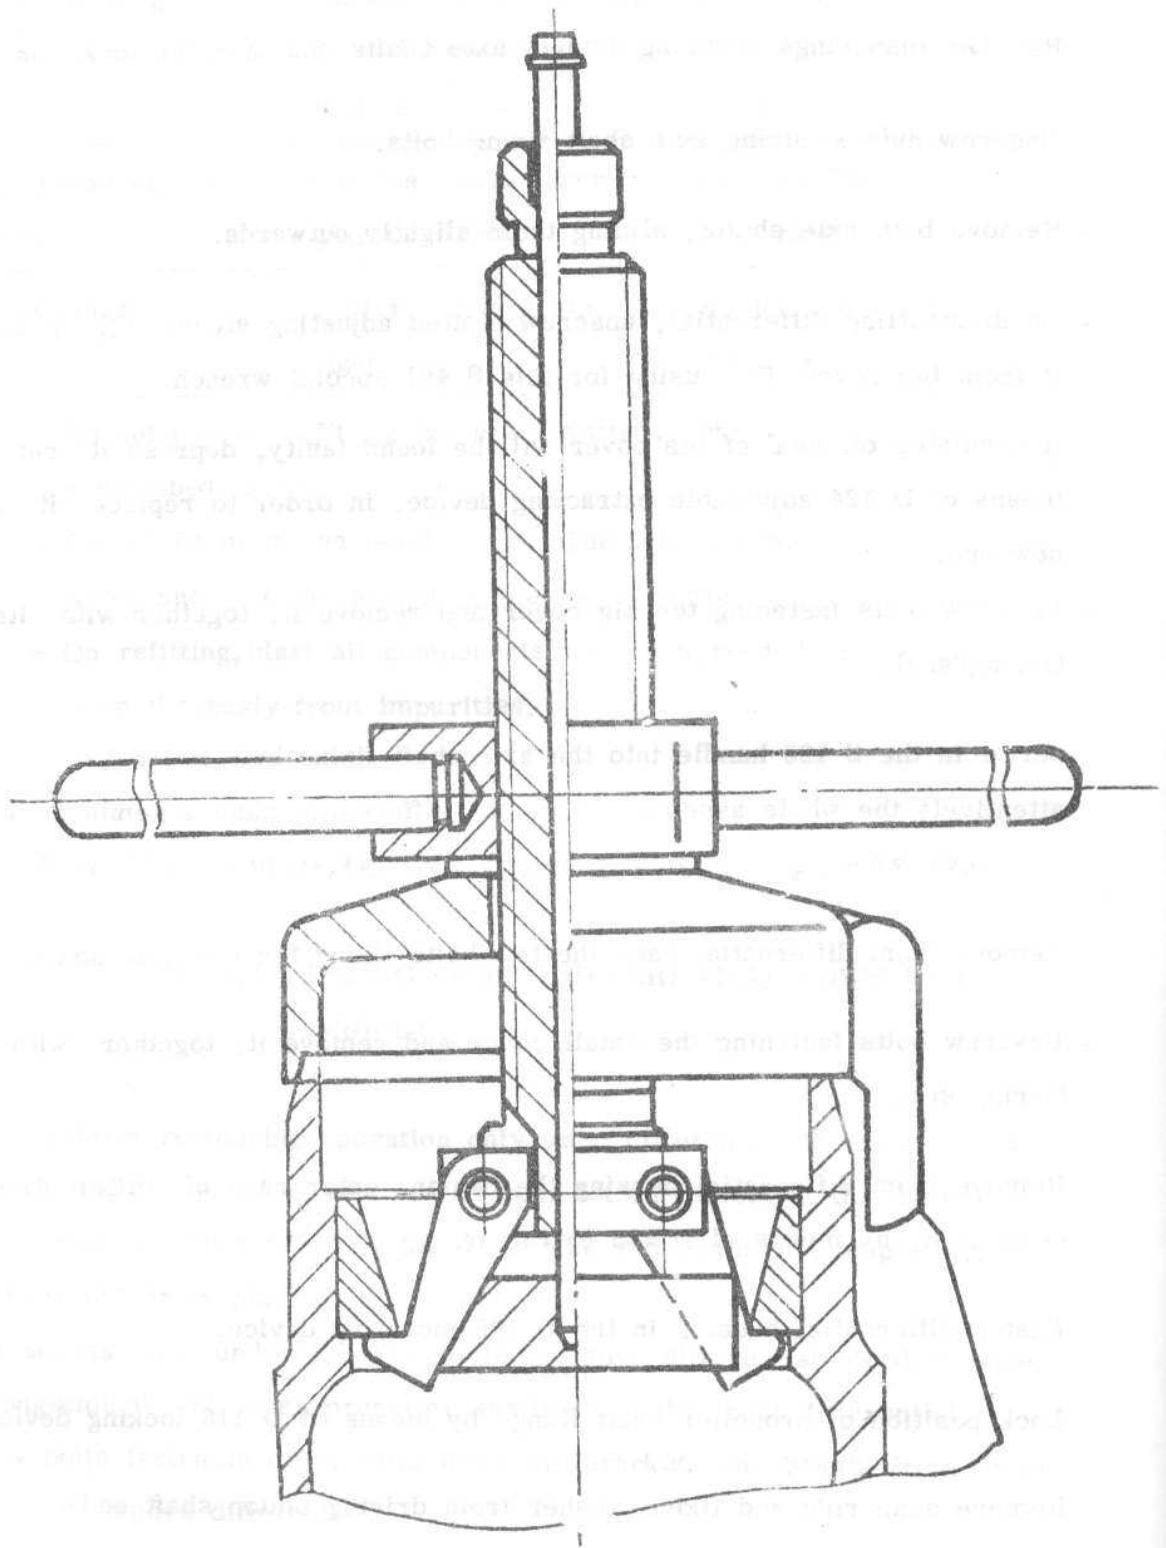

Fig. 4.114. EXTRACTING DRIVE PINION REAR BEARING OUTER RACE
- Depress outer race of driving pinion rear bearing (see Fig. 4.114).